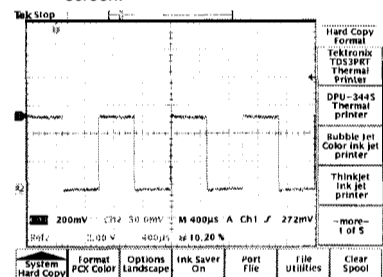

Figure 1. Utility > System: Hard Copy screen with new TDS3PRT format menu item
- Push **UTILITY > System: Hard Copy > Format** and select Tektronix TDS3PRT Thermal Printer from the side menu. Figure 1 shows the Hard Copy Format screen.